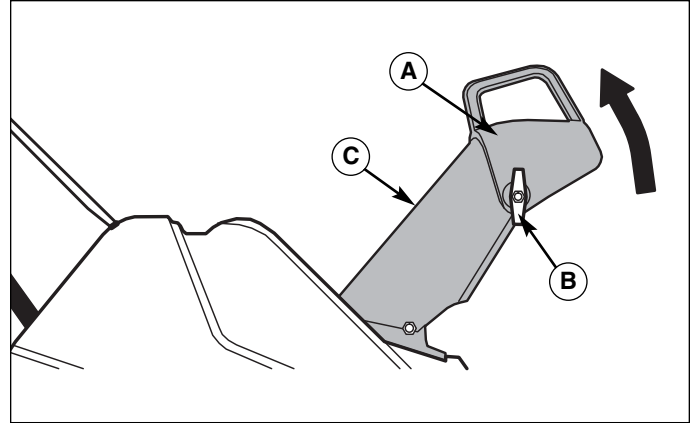

Figure 4. Upper Chute Installation
3. Remove the T-knob (B, Figure 4) and bolt on the upper chute.
4. Rotate the upper chute (A) to the operating position (past the lower chute stop)
5. Install the bolt and tighten the T-knob (B).